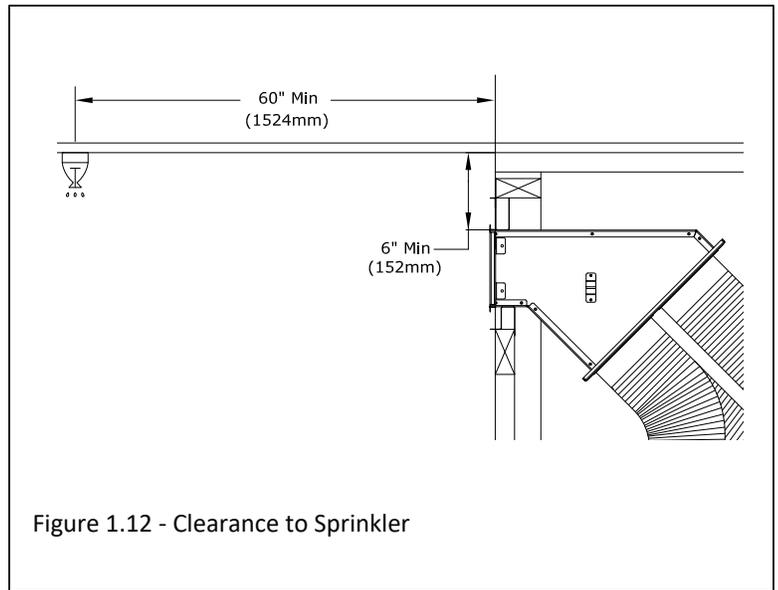

Figure 1.12 - Clearance to Sprinkler
- Figure 1.12 shows a side KZK whereas your installation may look different.
1. Measure from floor level of the fireplace to the center of where the vent pipe will penetrate the wall. The dimension in Figure 1.12 is used with Simpson DuraVent vent pipe.